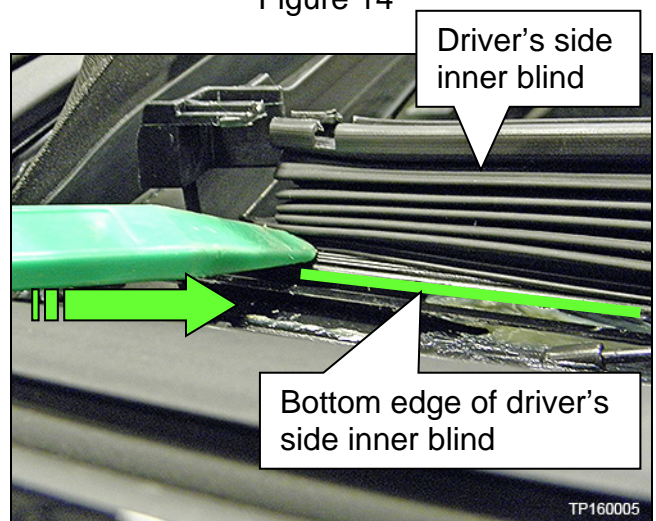

Figure 15
- b. Carefully detach the inner blinds from the Moonroof frame by pushing toward the inside of the vehicle along the bottom edge of inner blind (Figure 15).